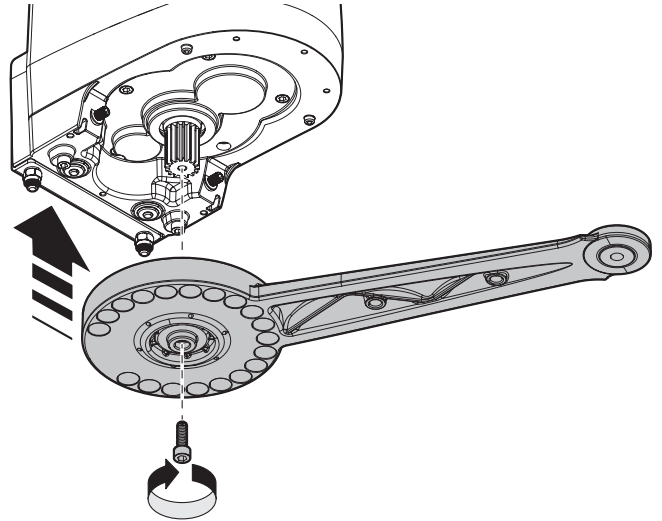

Fig.16
05. At this point re-install the arm onto the motor **Fig. 16**;